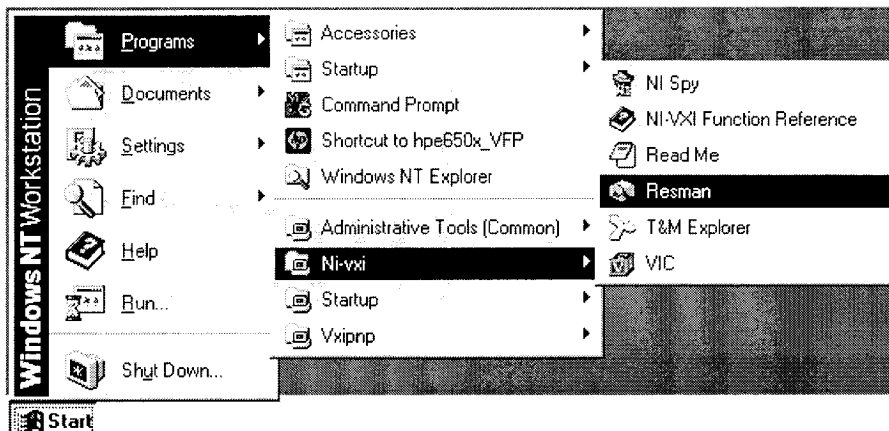
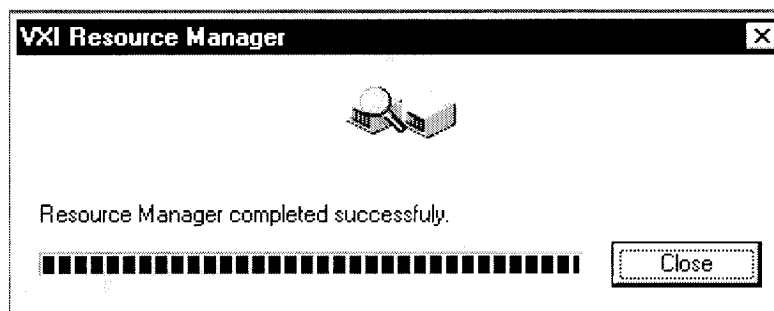

Figure 2-10 Running the Resource Manager
Figure 2-11 VXI Resource Manager
4. Click the **Resman** item. Refer to Figure 2-10. The dialog box shown in Figure 2-11 appears. The Resman program must be run once after the E650XA or any VXI equipment has been turned on.